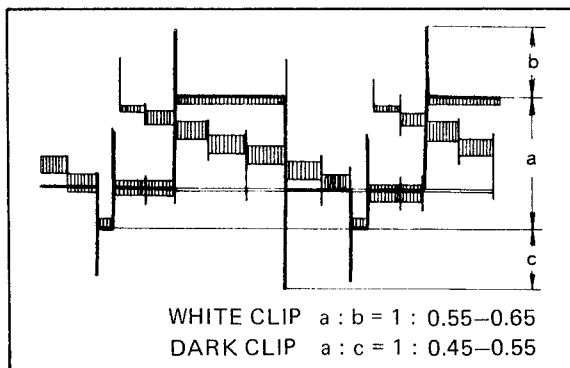

Fig. 6-27 White and dark clip adjustment
3. Adjust R4 (WHITE CLIP), so that the amplitude ratio of transient "spikes" with white clip becomes as shown in Fig. 6-27.
4. Adjust R17 (DARK CLIP), so that the amplitude ratio of the transient "spikes" with dark clip becomes as shown in Fig. 6-27.